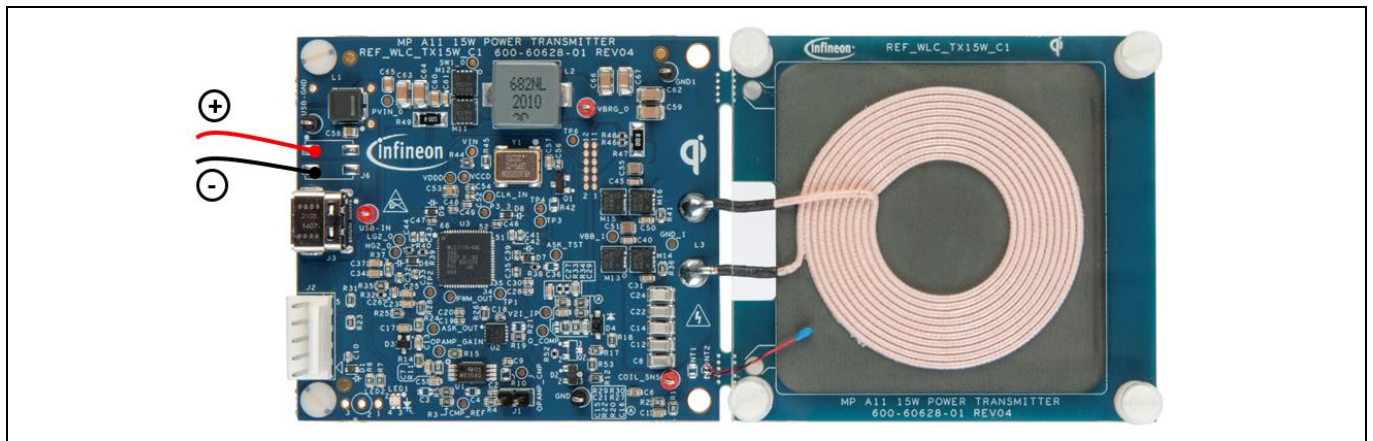

Figure 18 Provision for powering the reference board using bench power supply
- Solder the wires to J6 of the reference board as shown in **Figure 18**.